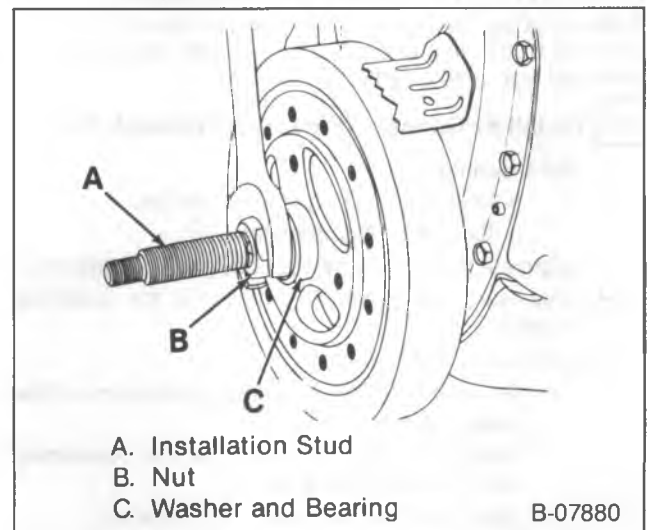

Figure 32—Installing the Torsional Damper
Install or Connect (Figure 32)
2. Stud (item A, figure 32) to the crankshaft. Thread the stud fully into the tapped hole in the crankshaft.